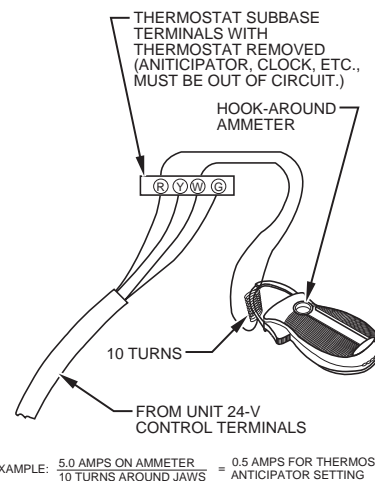

Fig. 48 – Amp. Draw Check with Ammeter
- (3.) Connect an amp. meter across the R and W subbase terminals or R and W wires at wall, see Fig. 48.